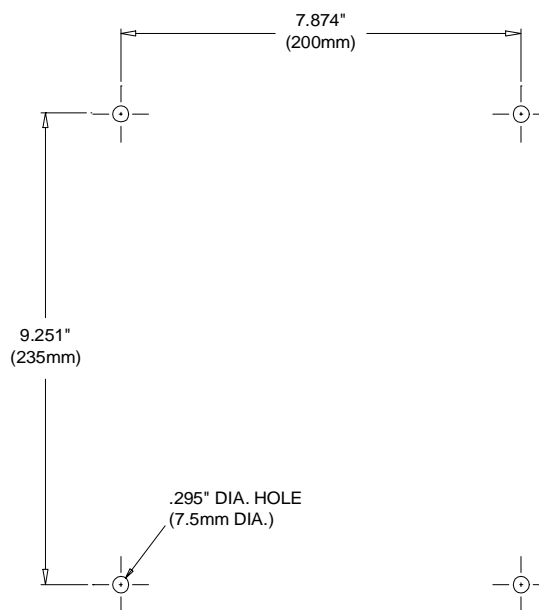

Figure 2.4: PulseStar•609 Mounting Hole Dimensions
3. Refer to Figure 2.4: PulseStar•609 Mounting Hole Dimensions. Drill holes into the mounting surface. The depth of the hole depends on the type of screw you are using to mount the receiver enclosure.